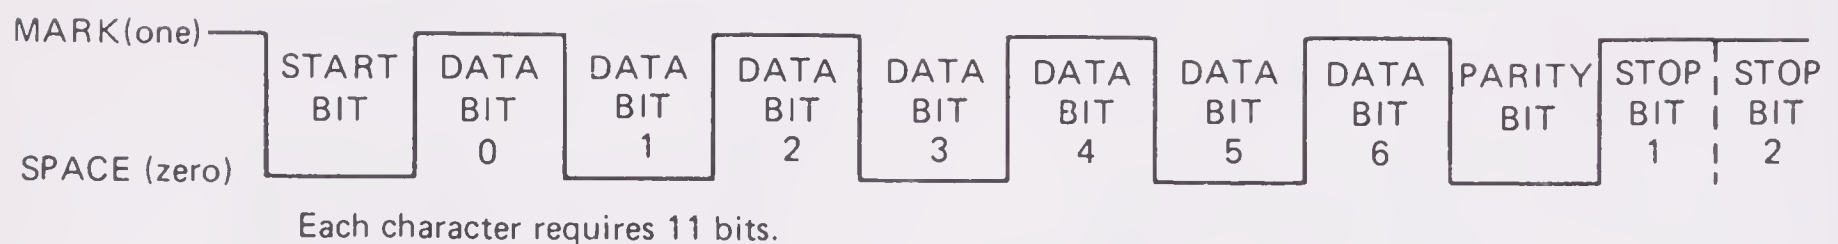

FIGURE E-2. Serial data format with a start bit and two stop bits.
One approach is to put markers around the data. Figure E-2 shows a popular format with a start bit (0) ahead of each 8-bit character and two stop bits (1s) afterward. Note that the data line is normally 1.